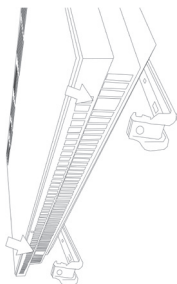

Figure 6. Placing the convactor to the lower part of the wall mounting
2. Correct space has to be measured in order that the connection cord can easily be connected to the electric socket. After determining the place the holes for montage must be drilled according to the method shown in Figure 7. To fix this appliance you can use the wall mounting bracket. (Figure 5) Mounting bracket can be used as a template for positioning and drilling points. You can place the bracket on the wall and measure the space between the floor and the lower part of the bracket as min 100 mm or max. 200 mm. Mark the screw-holes through the holes with an appropriate pen. You have to be careful to ensure the safety zones are kept free in order that the appliance can work efficiently. (Figure 6.)